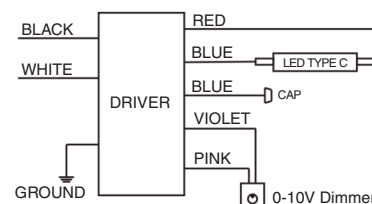

Figure 3a
Step 7: For double-ended wiring, please see **Figure 3a, 3b, 3c or 3d**.